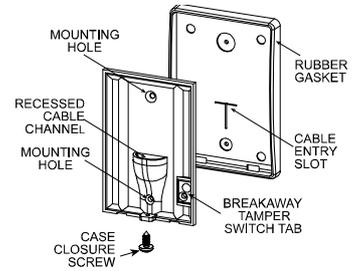

Figure 4. Base and Rear Gasket
**Attention!** The Tamper switch is activated when the TIAB control unit's front cover is removed or when the base is forcibly pulled from the mounting surface, which causes tamper switch tab to break (see figure 4). It is therefore especially important to firmly attach this tab to the wall with a long screw.
Use # 20 AWG or larger for connections between relay and door strike or other switching devices. All other connections can be made with # 22 AWG or larger. Route the wires through the slot in the rubber sealing gasket (see figure 4) and the recessed entry channel in the TIAB control unit base. Verify that there is no contact between uninsulated wires and the printed circuit board.